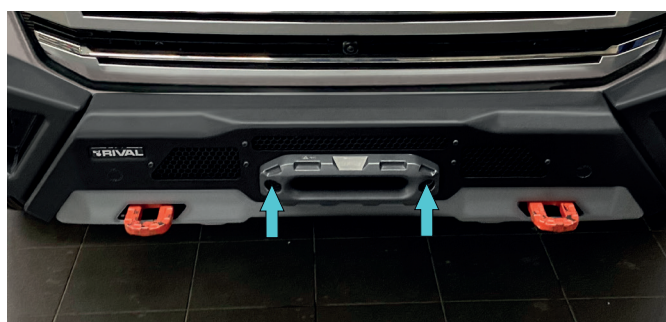

Fig.58
56. Install the fairled on the bumper, in case if you installed the winch, fasteners supplied with fairled. (fig. 58).